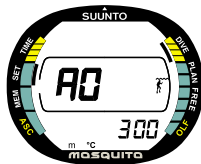

Fig. 4.14. Setting Altitude Adjustment.
2. Wait two seconds until the Adjustment Mode activates automatically. The altitude setting starts to blink on the display (Fig. 4.14.).